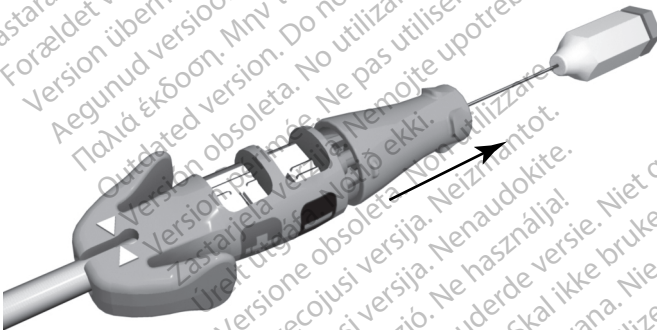

Figure 5. Connector Tool fixation knob disengaged
3. Disengage the fixation knob from the terminal pin prior to inserting the lead into the vein (Figure 5 Connector Tool fixation knob disengaged on page 18).